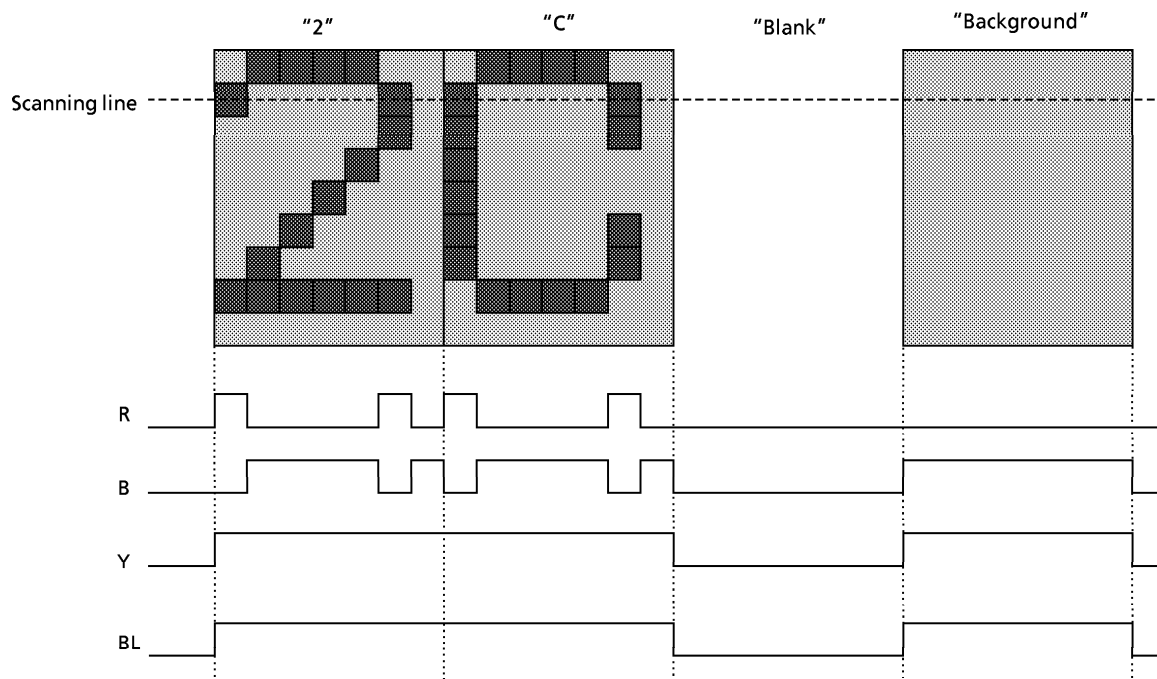
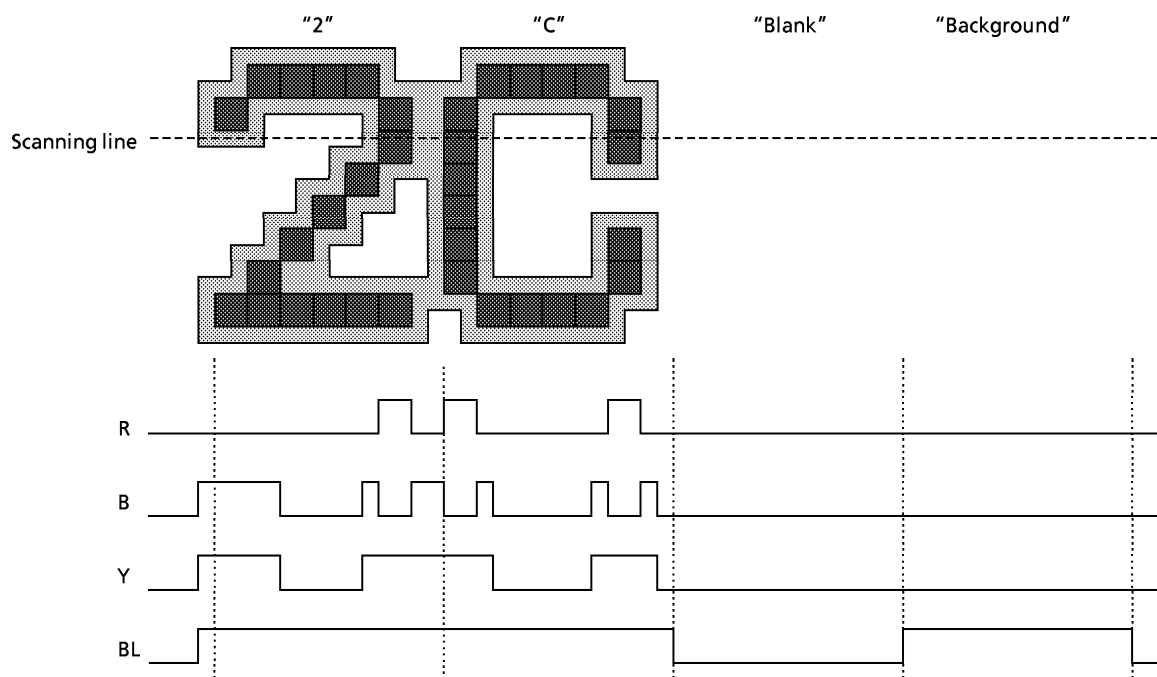

Figure 3-15. Example of OSD display and its wave form (1)
Figure 3-16. Example of OSD display and its wave form (2)
Figure 3-15 shows display example (1). The conditions for this example are as follows:
- ① Display data: 2, C, blank data (character code 7FH), background (character code 7EH).
- ② Color data: RDT = 1, BDT = 0, GDT = 0.
- ③ Background color data: BRDT = 0, BBDT = 1, BGDT = 0.
- ④ Fringing and smoothing disabled.
- ⑤ This screen display example is controlled by the R, B and BL signals.
Figure 3-16 shows display example (2). The conditions for this example are as follows:
- ④ Fringing enabled and smoothing disabled.
- ⑤ This screen display example is controlled by the R, B and Y signals.